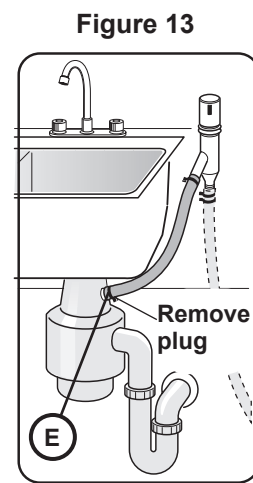

Figure 13
- 4 To a disposer dishwasher drain connection through an air gap, as shown on Figure 13.